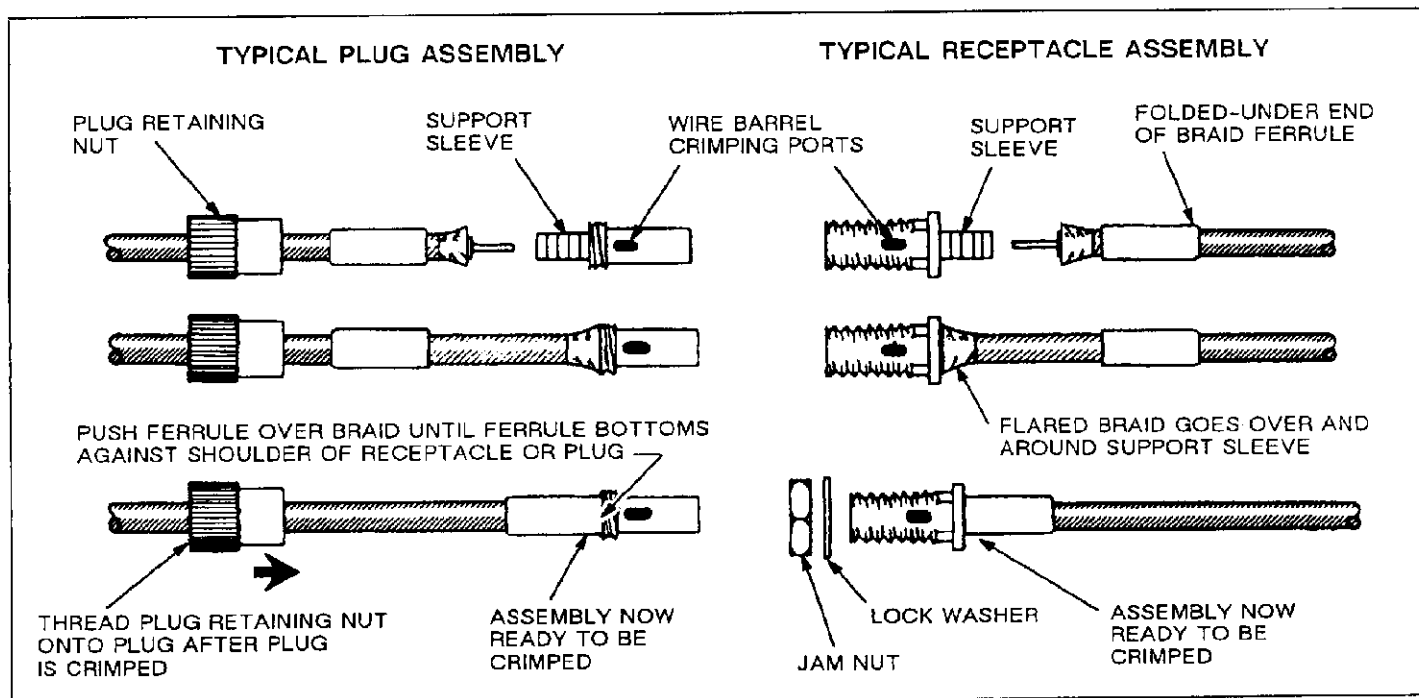

Fig. 4
1. Hold ferrule in place and insert the stripped conductor into the wire barrel of connector. Turn plug or receptacle slightly to ease insertion of the stripped conductor. See Figure 4.
2. Push ferrule forward and over support sleeve of connector as far as it will go. Connector is now ready to be crimped to cable. Refer to Figure 4.